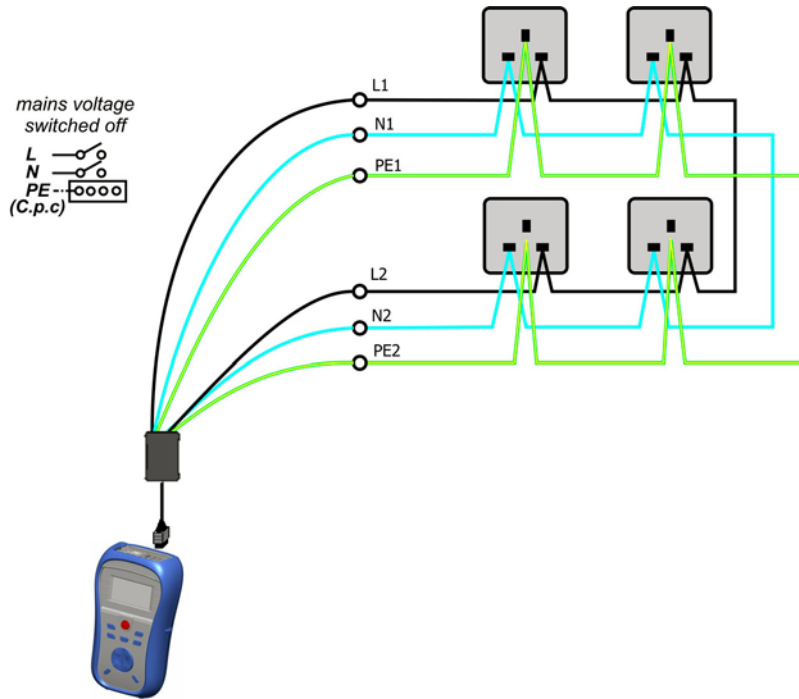

Figure 5.16: Step 1 - measurement of resistances  $r_1$ ,  $r_N$  and  $r_2$
- ❑ **Connect Easy Switch** to the instrument (see figure 5.16)
- ❑ **Connect Easy switch** to the final ring circuit. The electrical installation must be de-energized during the test (see figure 5.16).